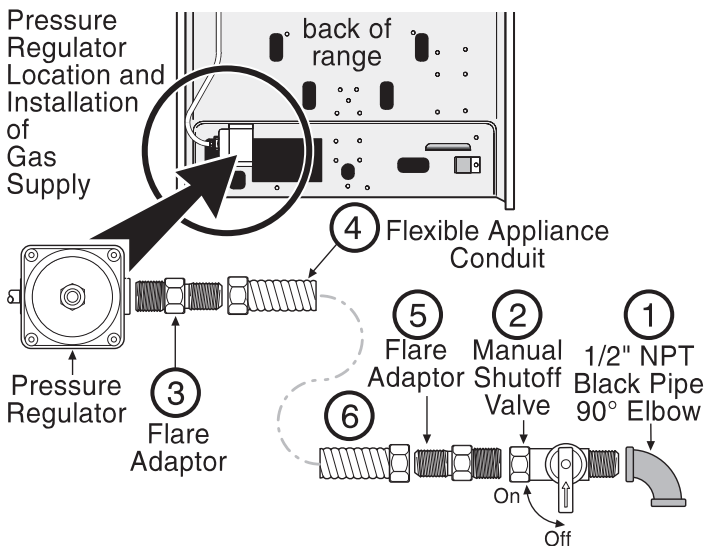

Fig. 33
This range is pre-set to operate on 4" natural gas manifold pressure. The Pressure Regulator is connected to the manifold and **MUST** be connected in series with the gas supply line (See Fig. 33 on page 10).
- 1.) Install 1/2" NPT 90° Black Pipe Elbow to the gas supply pipe stub (See Fig 33)
- 2.) Install an external gas Shut-Off Valve (manual) to gas supply line in an easily-accessible location outside of the range. Be sure you know how and where to shut-off the gas supply to the range (See Fig 33).
- 3.) Install Flare Adapter* to gas Pressure Regulator (See Fig. 33).
- 4.) Attach flexible Appliance Conduit to Flare Adapter on Pressure Regulator (See Fig 33).
- 5.) Install 2nd Flare Adapter* to external manual Shut-Off Valve (See Fig 33).
- 6.) Attach flexible Appliance Conduit to Flare Adapter on Shut-Off Valve (See Fig 33).